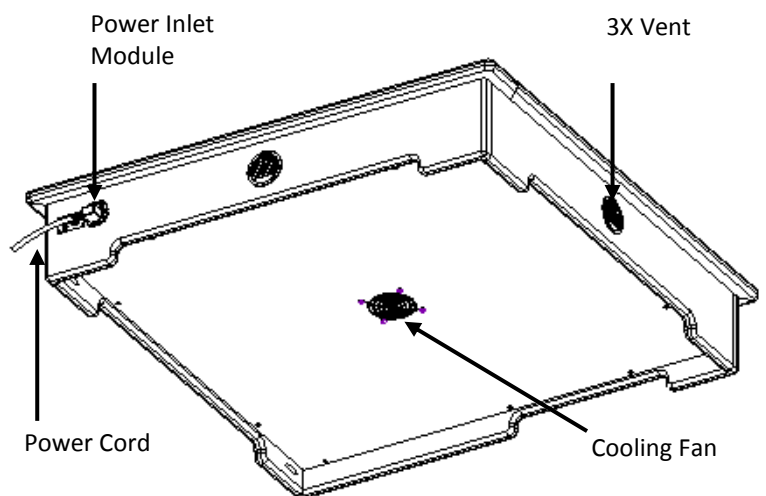

Figure 4
3. Plug the un-pronged end of the power cord into the inlet power module on rear side of the hot plate. Plug the pronged end into a power source appropriate for the voltage of system. See *Figure 4*.
4. Turn on the system using switch on the inlet power module. See *Figure 4*.